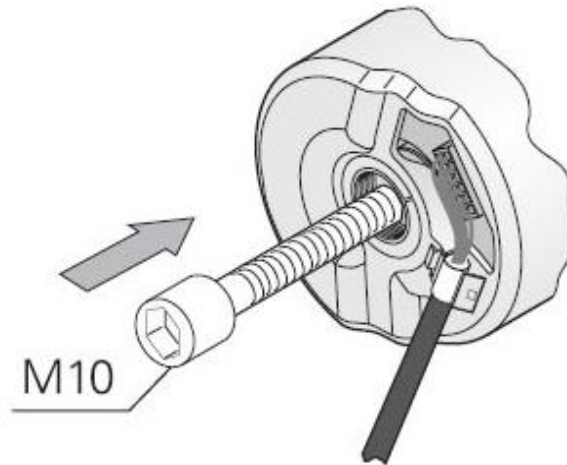

Figure 25: Use the M10 bolt to loosen the encoder
4. Turn the M10 bolt against the M5c50 bolt to push the encoder from the shaft. Remove both bolts and the encoder. **Note: Steps 3 and 4 may have to be repeated until the encoder can be freely removed. (The M5 bolt must remain in the encoder so the M10 bolt can push against it.)** Remove the encoder. See Figure 25.